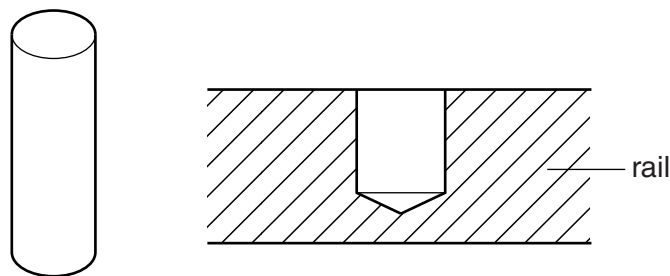

Fig. 15
- (e) Fig. 15 shows a length of $\text{Ø}9$ dowel that will be glued into a hole in the rail.
Show on Fig. 15 how the dowel could be prepared to make gluing easier and more effective. [2]